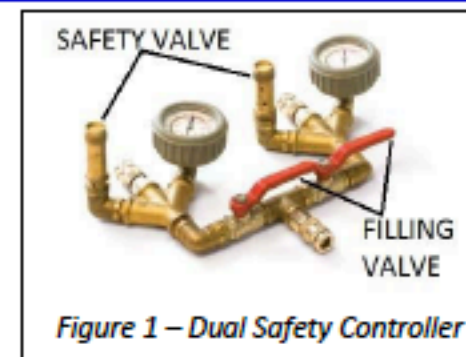

Figure 1 – Dual Safety Controller
- Using the pressure gauge, check the working pressure and the air bag operation at inflation. Once lifting or separating is complete, close the filling valve on the controller (see Figure 1).